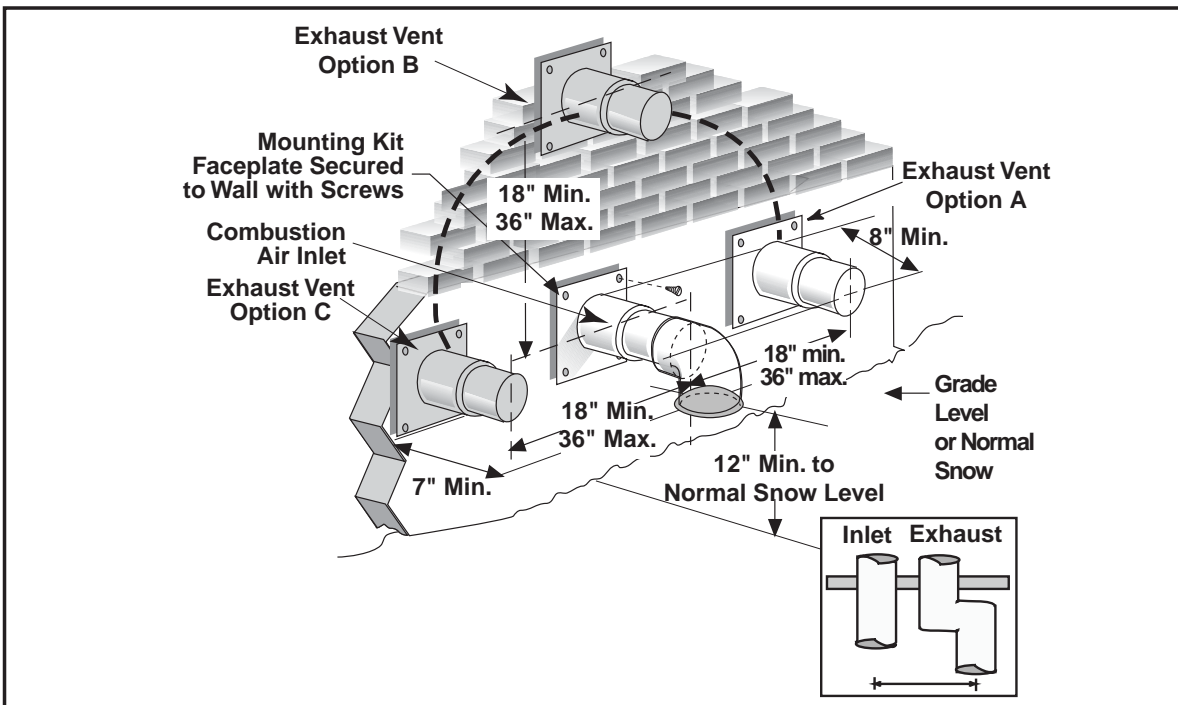

Figure 19. Exhaust and Combustion Air Pipe Clearances
Vent and combustion air intake terminations must be as shown in Figure 19. Vent termination clearances shall be consistent with the National Fuel Gas Code, ANSI 2223.1/NFPA 54 and/or the CSA B149.1, Natural Gas and Propane Installation Code.
Ensure that the combustion air vent and the exhaust vent are configured as shown in Figure 19. Improper vent termination can cause recirculation of the flue gases. This may result in furnace vibration. In severe cases, the furnace will cycle due to the intermittent contact between the flame and the flame sensor. If you note oscillations occurring, check the vent configuration. Make sure that the exhaust vent does not have a 90 degree termination.
4. Insure the combustion air inlet pipe (for a 2 pipe installation) has a 90 degree termination elbow as shown in Figures 19 and 20.